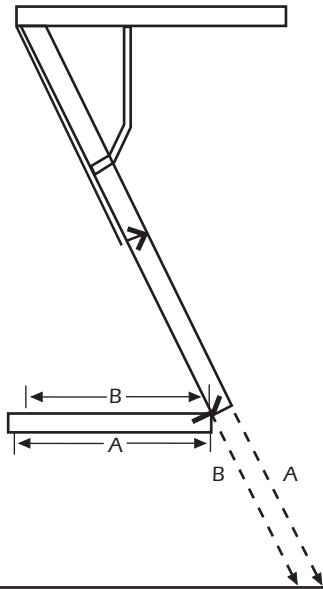

Fig. 7
**Step 8-** Fully extend the folding section of the stairway. Fold the bottom section of the stairway under the middle section, so that the top and middle sections form a straight line (See Fig. 7). Apply pressure on the stairs to ensure the spring arms are fully extended.
**Step 9-** Place a straight edge on top of the middle section and slide it down until it contacts the floor. Measure the distance from the end of the middle section to the floor (A in Fig. 7). Mark the distance on the A side of the bottom stringer.
**Step 10-** Place a straight edge on the bottom of the middle section and slide it down until it contacts the floor. Measure the distance from the end of the middle section to the floor (B in Fig. 7). Mark the distance on the B side of the bottom stringer. It is possible for the landing area to be uneven, so repeat this procedure on the other stringer.